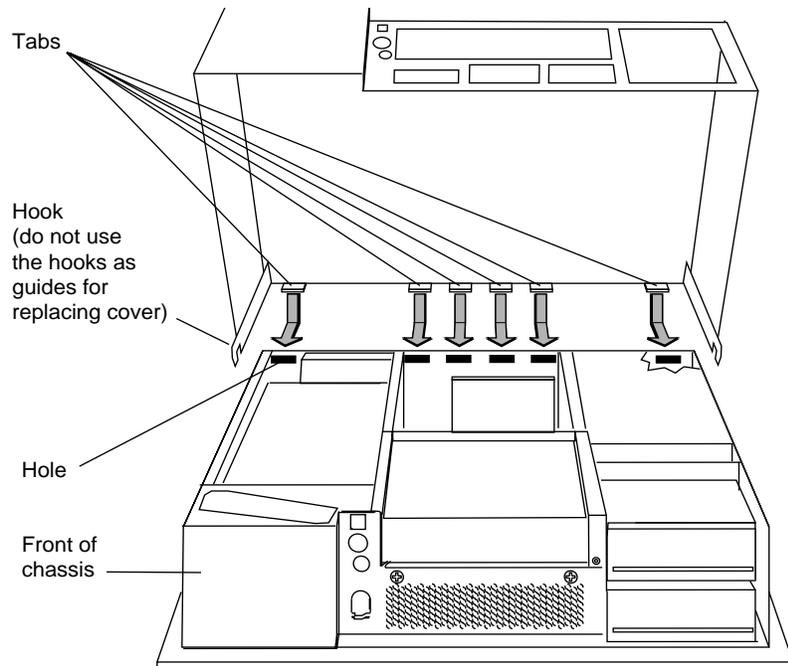

Figure 5-16 Replacing the Cover
1. Locate the tabs on the inside and back of the top cover and the holes on the back of the workstation. See Figure 5-16.